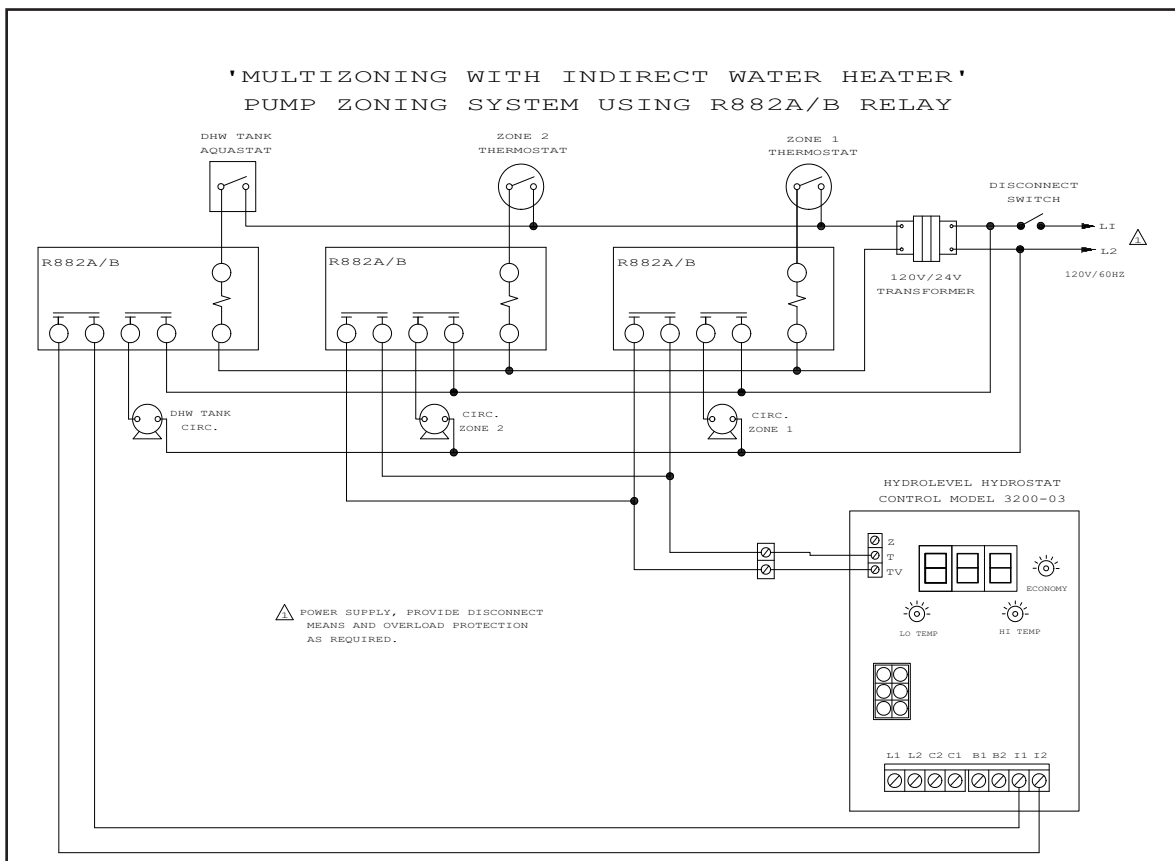

Figure 6. Multizoning of Galaxy boiler-2 zone system pump zoning system using R882A/B relays.
If system includes indirect water heater, the indirect signal must be separated from heating zones(s) system. See figure 6 and 8. Follow steps below:
- Power DHW and heating zone(s) circulators through end switch relays as shown on figure 6. Do not connect heating zone(s) circulators to C1 and C2 of the control.